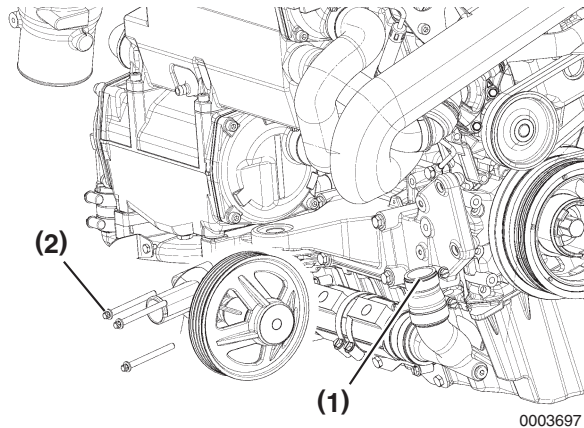

Figure 7-26
4. Disconnect seawater pump-to-hydraulic oil cooler pipe (**Figure 7-26, (1)**).
5. Remove three bolts (**Figure 7-26, (2)**) and remove seawater pump.